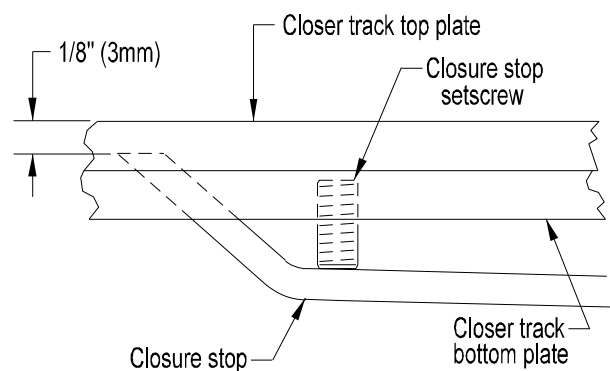

Figure 3.6
3. Turn the setscrew in or out to lower or raise the tip of the stop until it is 1/8" (3mm) below the top of the track top plate (Figure 3.6). If the tip of the stop will not raise as the setscrew is turned out, the stop may be bowed. If so the stop must be removed from the machine and the part straightened. Use thread locking compound to secure the setscrew.